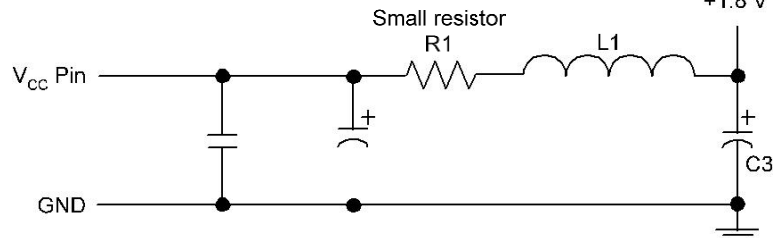
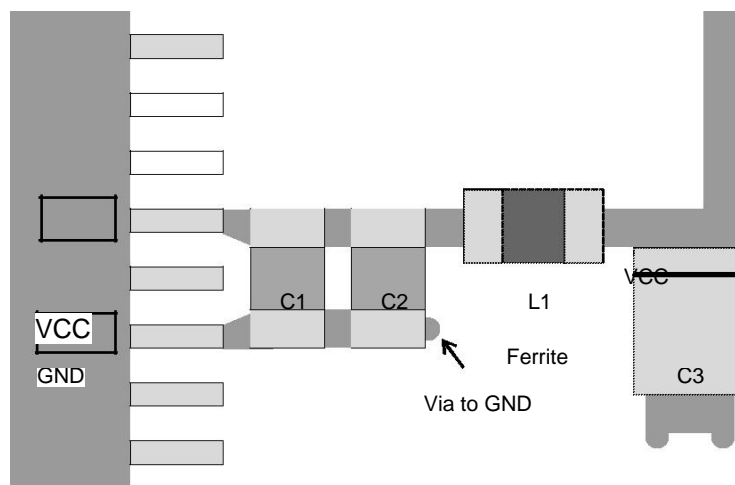

Figure 35. Decoupling and Bypass Schematic
Figure 36. Decoupling and Bypass Capacitor Placement
Designers should include decoupling and bypass capacitors at each power pin in the layout. These capacitors are shown schematically in Figure 35. Place them as close as possible to the SiI9134 device pins, and avoid routing through vias if possible, as shown in Figure 36, which represents the various types of power pins on the transmitter.
**Note:** Figure 36 shows the decoupling and bypass capacitor placement for the TQFP package.